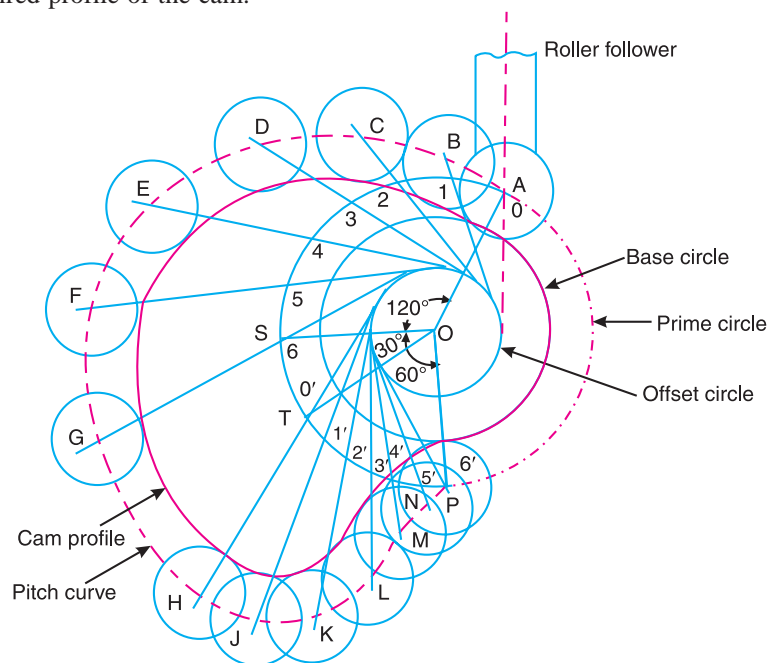

Fig. 20.18
The profile of the cam when the line of stroke is offset from the axis of the cam shaft, as shown in Fig. 20.18, may be drawn as discussed in the following steps :
10. Join the bottoms of the circles with a smooth curve as shown in Fig. 20.18. This is the required profile of the cam.